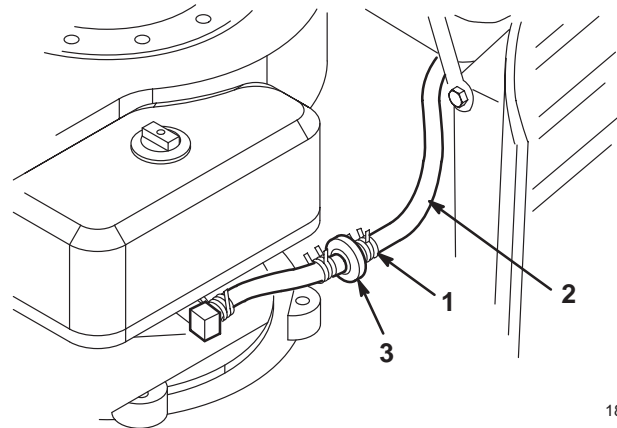

Figure 30
2. Open the hood and locate the fuel filter (Fig. 30).
3. Squeeze the ends of the hose clamp together and slide it up the fuel line toward the fuel tank (Fig. 30).
4. Pull the fuel line off of the filter (Fig. 30) and allow gasoline to drain into a gas can or drain pan.
The best time to replace the fuel filter (Fig. 30) is when the fuel tank is empty. Never install a dirty filter if it is removed from the fuel line.
3. Squeeze the ends of the hose clamps together and slide them away from the filter (Fig. 30).